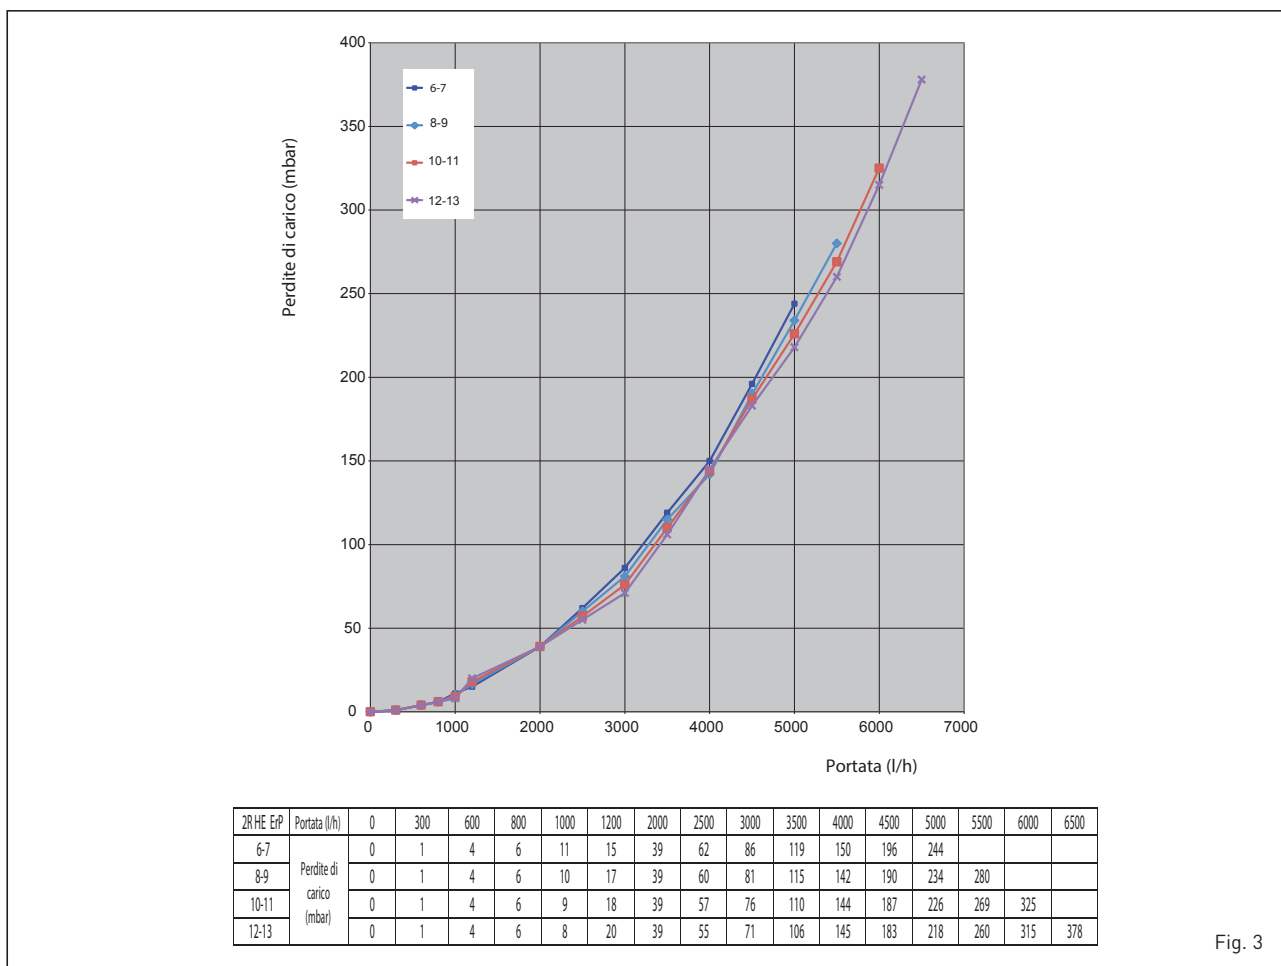

Fig. 3
1.4 LOSS OF HEAD (fig. 3)
The boiler door details is shown in figure 3/a for burner mounting.